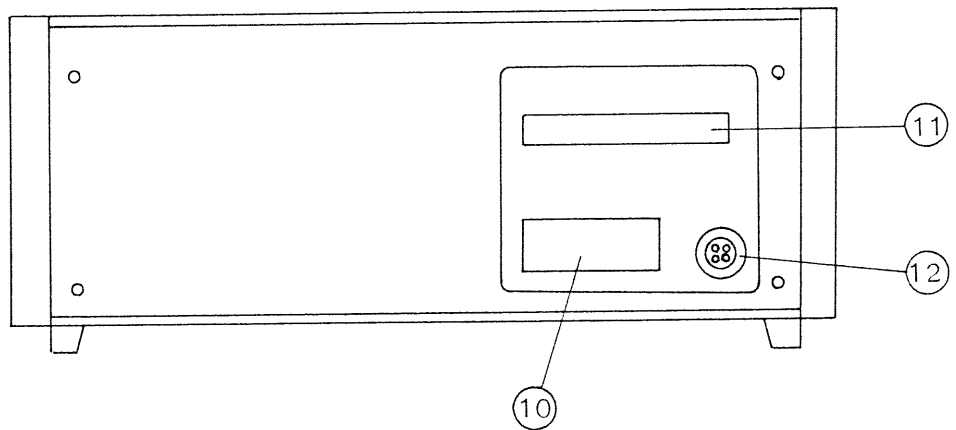

Fig. 3-2 Rear Panel
- ⑥ AMMETER (left side) Indicates the output current. Full scale 1.2A DC
- ⑦ C.V. This lamp turns on when the power supply is operating in the constant-voltage mode.
⑧ C.L. This lamp turns on when the output current has exceeded the current limit value (set with the CURRENT knob of Item ③ above, to indicate that the power supply has been driven into the current limit state.
⑨ ALARM This lamp turns on when the thermal relay has tripped and the output has become zero volts when the power supply is over-heated due to hampered ventilation, circuit failure, etc..
3.2 Explanation of Rear Panel (Refer to Fig. 3-2.)
⑩ Terminal block (lower five terminals)